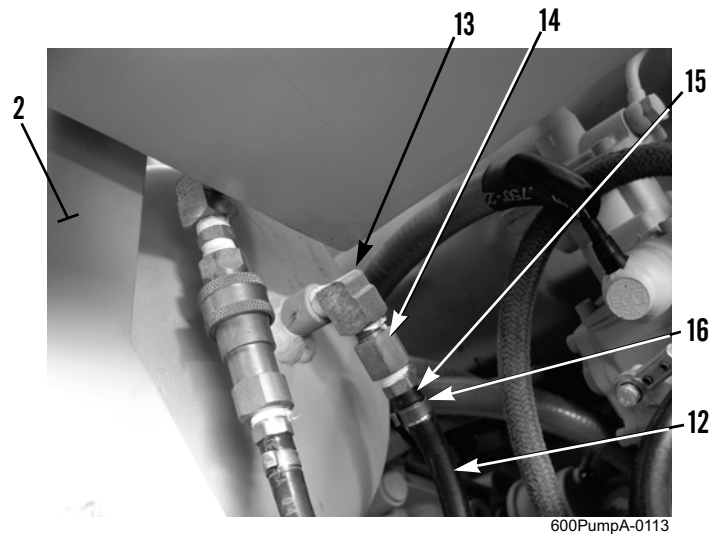

Figure 14. Pressure Gauge Hose and Inline Filter at Discharge Manifold.
20. Install elbow fitting (Figure 14, Item 13) on discharge manifold (Figure 14, Item 2).
21. Install inline filter (Figure 14, Item 14) on elbow fitting (Figure 14, Item 13).
22. Position new hose clamp (Figure 14, Item 16) on pressure gauge hose (Figure 14, Item 12). Hold hose and install barb fitting (Figure 14, Item 15) on inline filter (Figure 14, Item 14). Tighten hose clamp.